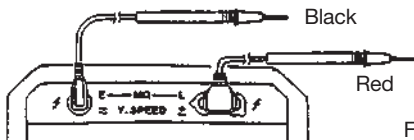

Fig. 5
2. Connect the amber plug of the red test lead to the \pm terminal on the right and the black plug of the black test lead to the \approx terminal on the left as shown in Fig. 5.